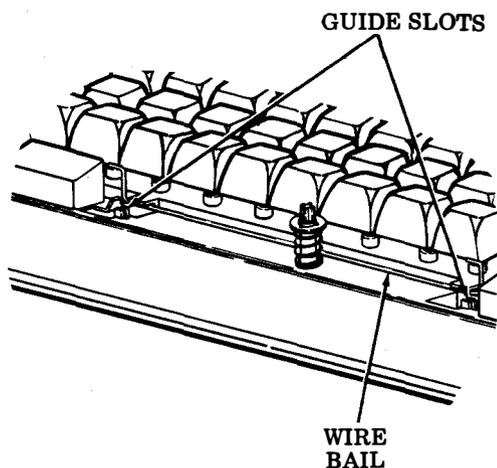

Fig. 39—Wire Bail Removal
- (c) When the spacebar is removed, the wire bail can be removed from its guide slots (Fig. 39).